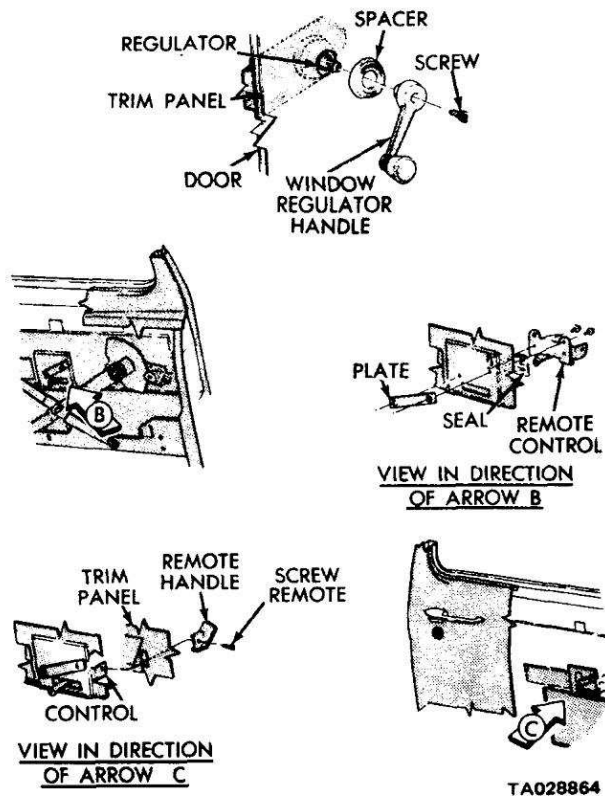

Figure 2-109. Remote Control and Regulator Handles.
(1) Remove the door regulator window glass handle (figure 2-109).
(2) Remove the remote control handle and the door trim panel.
(3) Working through the access hole, remove the remote control linkage and mounting plate.